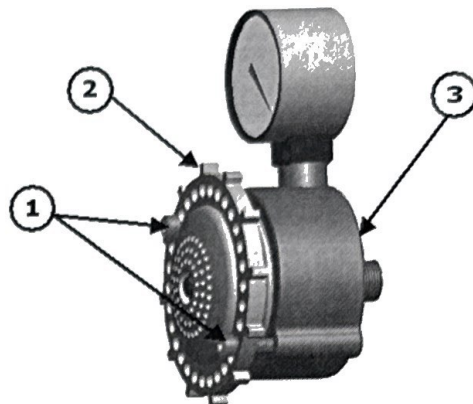

Figure 3. Adjustability for Air leakage
- 5.3 Correct for the erratic readings as follows: (See Figure 3)